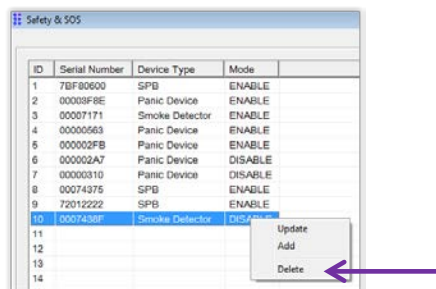

Figure 69: Delete Safety or SOS Device
- Right-click on the row in the **Safety & SOS** device list with the safety or emergency device you want to delete. A window appears prompting you to confirm the delete request as in Figure 69 below.